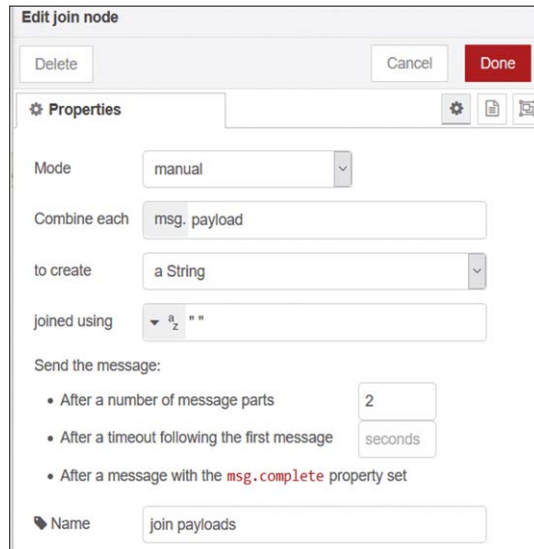

Figure 4.26 Edit the join node
- Create a **join** node with the name **join payloads**. Double click this node and edit as shown in Figure 4.26. Notice that the message parts are set to 2 and are separated with a space character. Click **Done**